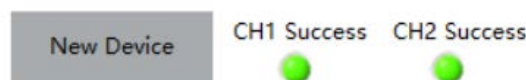

Figure 5.3.9 New Device
- Click the "New Device" button to erase the existing angle programming data inside the chip. (If it's the first time programming the chip, you can skip this step to simplify the process and save programming time.) After the erasure is complete, the "Complete" indicator light will turn solid green (Figure 5.3.9).